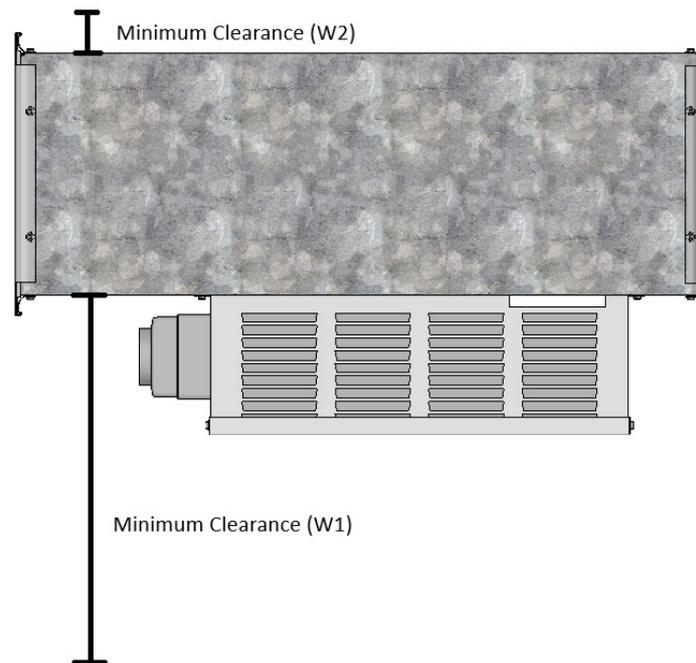

Figure 3: Installation Clearance
- Clearance above, below and on the side of the heater duct that does not contain the electrical enclosure (W2 in Figure 3) must have a minimum clearance from any wall, ceiling or other component of 50mm.
- Clearance on the side of the of the heater duct that contains the electrical enclosure (W1 in Figure 3) must have a minimum clearance from any wall or other component of the width of the heater ducting plus 250mm. i.e. If the duct width is 286mm, the clearance $W1 = 536\text{mm}$. This is to allow for the removal of the gland plate which holds the heating elements and electrical components.
- Whether the unit is single or 3 phase, an isolator switch will come pre-installed on the side of the electrical enclosure, see Figure 3. This is where the 230V electrical supply will be fed to the unit. Follow local building and electrical codes for wires used. The interlock switch comes with a few knockout options to be used for incoming power. Use either one as needed.